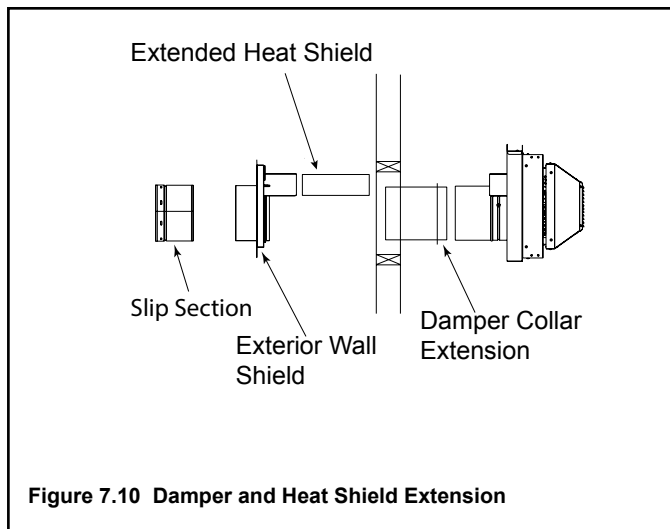

Figure 7.10 Damper and Heat Shield Extension
- Attach the damper collar extension to the damper collar on the termination cap and attach with minimum of (3) screws. See Figure 7.10.